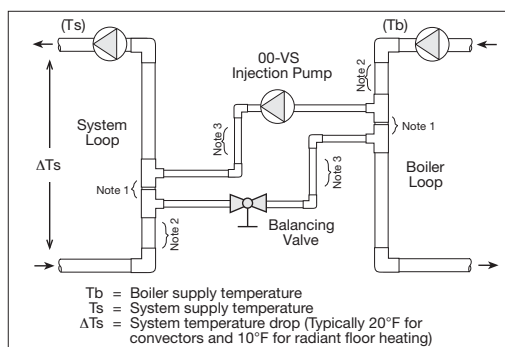

Figure 3
When the injection pump is turned off, there must be no heat transfer from the boiler loop to the system loop. In order to avoid this unwanted heat transfer, primary/secondary piping techniques are used as shown in Figure 3.
1. Determine the design operating temperatures of the system loop and boiler. (Ts and Tb from Figure 3)